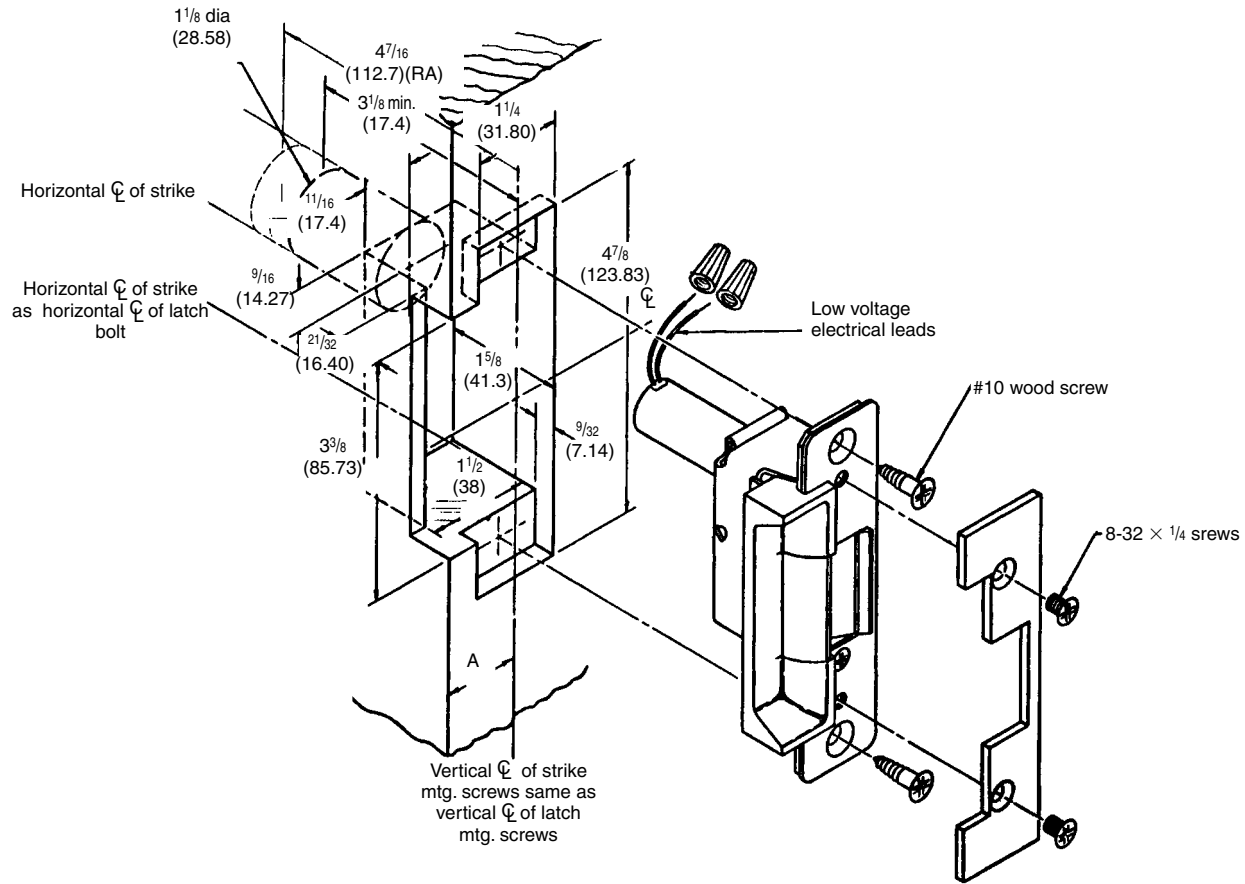

Figure 19.6 A wooden door jamb preparation. (Adams Rite Mfg. Co.)
1. Prepare the wood door jamb to the dimensions indicated in Fig. 19.6.